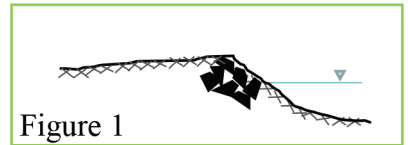
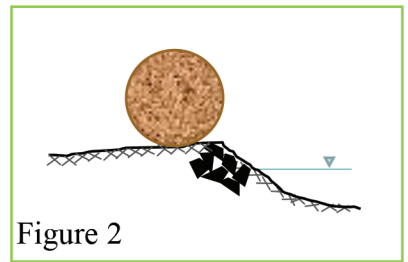

Figure 1
Figure 2
1. Clean and grade the base of the eroded streambank or shoreline. If necessary, strengthen the toe and the foundation (Figure 1). Place the BioD-SuperRoll™ unit on a level surface (a slight incline as shown is recommended), keeping the end with the pouch towards the direction of extension of the BioD-SuperRoll™ (Figure 2).